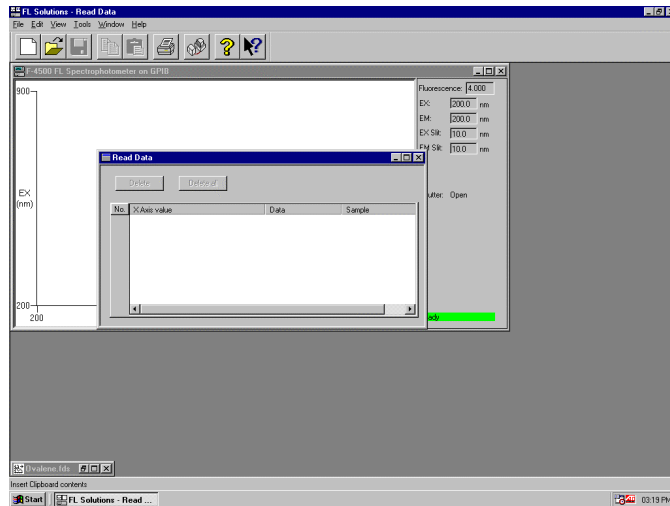
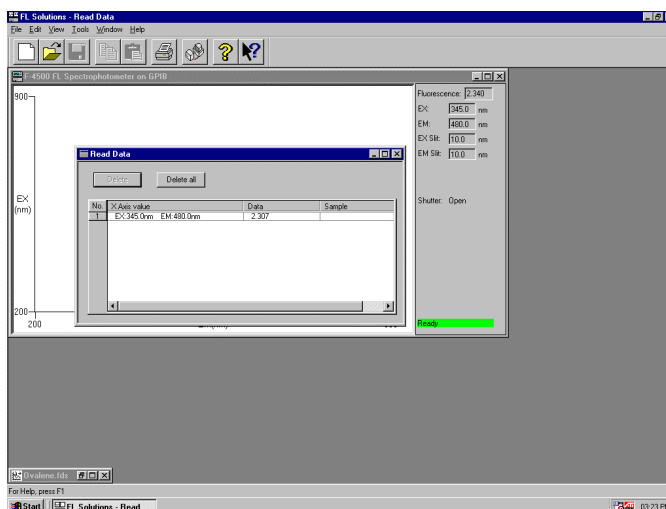

Fig. 6-35
Fig. 6-37
Select the Data read (R) command from the Tools (T) menu. A window as in Fig. 6-35 will appear.
Select "Present data read" and the photometric value on the monitor window will be read on the window shown in Fig. 6-35. Display becomes as shown in Fig. 6-37.